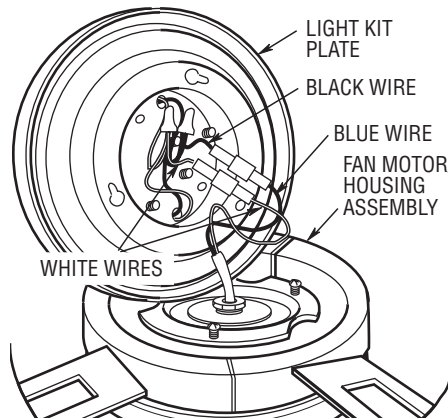

Figure 6
- 4. Connect the white wire from the light kit plate to the white wire in the fan motor/housing assembly (Figure 6). Connect the black wire from the light kit plate to the black wire in the fan motor/housing assembly.